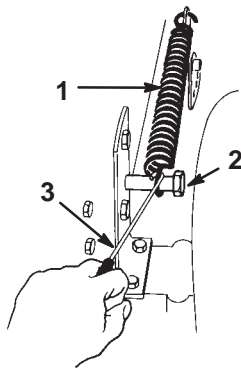

Figure 44
20. Hook the height-of-cut lift assist spring onto the retaining bolt (Fig. 44) using the spring tool provided with the tractor.